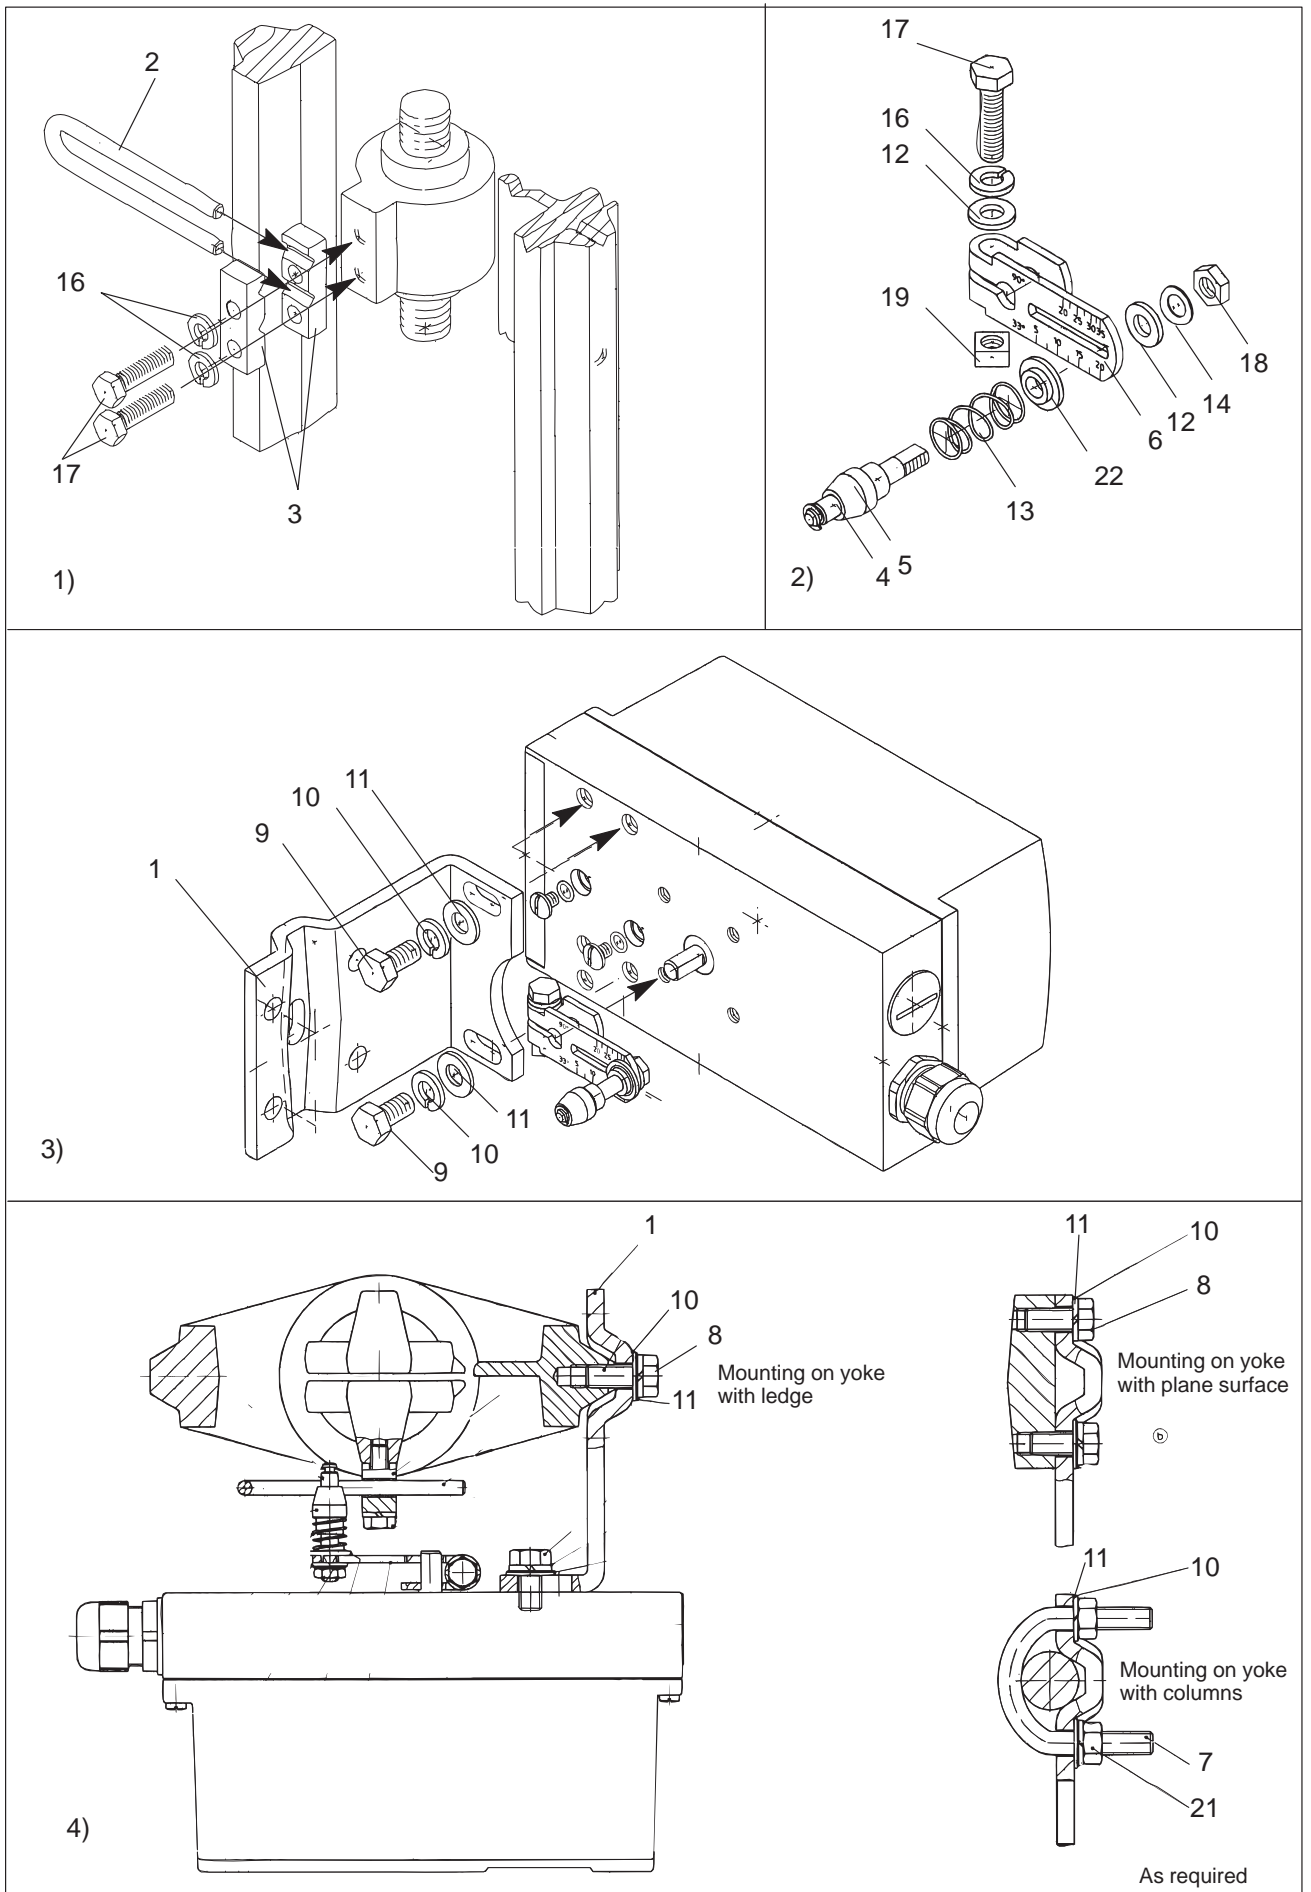

Fig. 1 Assembly sequence (linear actuator)
The following are included in the *delivery of the extension kit* "Linear actuator IEC 534 (3 mm to 35 mm)" (see Fig. 1 for item Nos.):
3.2.1 Assembly Sequence (see Fig. 1)
- Mount clamping assembly (3) with hexagon head screws (17) and spring washers (16) on the actuator spindle.
- Insert the pick-up bracket (2) into the recesses of the clamping assembly. Set the required length and screw only so tight that the pick-up bracket can still be shifted.
- Place the roll (5), the spring (13) and guide washer (22) onto the pin (4).
- Insert pin into lever (6) and assemble with nut (18), spring washer (14) and U-washer (12).
- Fit the hexagon head screw (17), spring washer (16), U-washer (12) and square nut (19) on the lever.
- Push the premounted lever onto the positioner axis as far as possible, and secure using the hexagon head screw (17).
- Fit the mounting bracket (1) with two hexagon head screws (9), spring washer (10) and U-washer (11) on the rear of the positioner.
- Selection of the row of holes depends on the width of the actuator yoke. The roll (5) should engage in the pick-up bracket (2) as close to the spindle as possible, but must not touch the clamping assembly.
- Hold the positioner with the mounting bracket on the actuator such that the pin (4) is guided within the pick-up bracket (2).
2. Push the driver pin (4, Fig. 1, 2) on the lever (6, Fig. 1, 2) to the scale position corresponding to the nominal stroke or the next highest scale position and screw the driver pin tight with the nut (18, Fig. 1, 2).